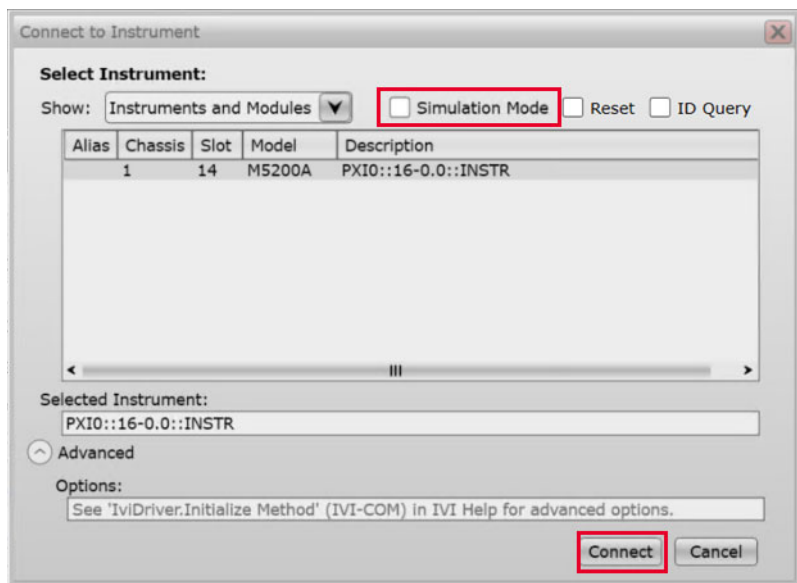

Figure 33 Connect to Instrument with "Simulation Mode" disabled
- 'Simulation mode' disabled—This is the active mode of SFP operation and is available when the **Simulation Mode** check box is manually cleared. The **Simulate** button is replaced with the **Connect** button on the **Connect to Instrument** window, as shown in Figure 33. In this mode, only the active modules are displayed along with the respective chassis number, slot number and VISA address.